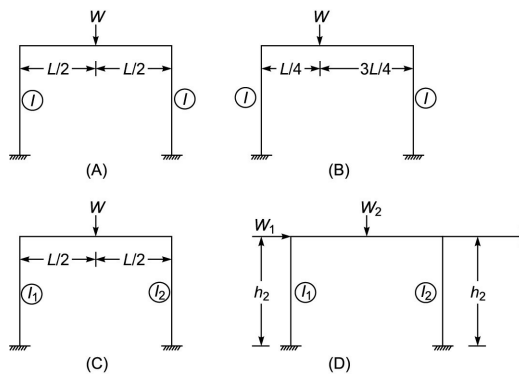

Fig. Q. 43
43. Which of the frame shows in Fig. Q. 43 experience sway?